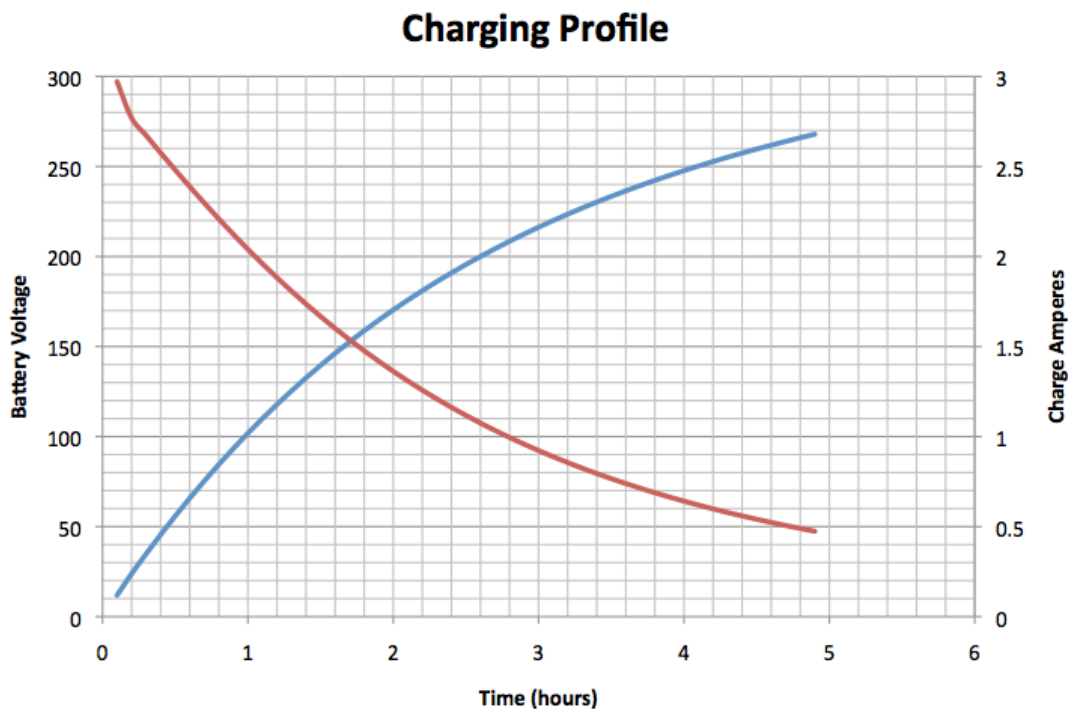

Figure 3: Normal charge voltage and current vs. time. Red curve is current.
Note! The knob does not control the amount of current. With a good battery, that will begin at about 3.3A and decrease gradually as it is charged [see Figure 3].
7) Estimated charge time for an otherwise healthy but discharged battery is about 4 hours to full charge [Figure 3].